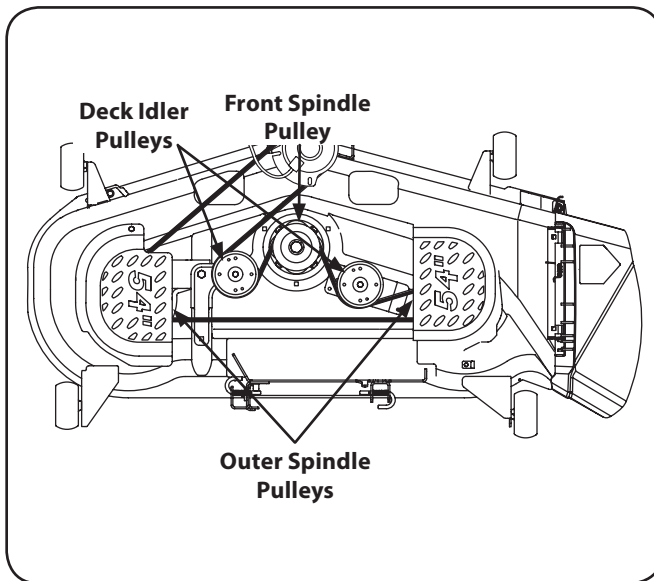

Figure 7-8
5. To place the new belt begin by routing the belt around the two outer spindle pulleys, then around the front spindle pulley as shown in Fig. 7-8.
6. Route the belt around the two deck idler pulleys as shown in Fig. 7-8.